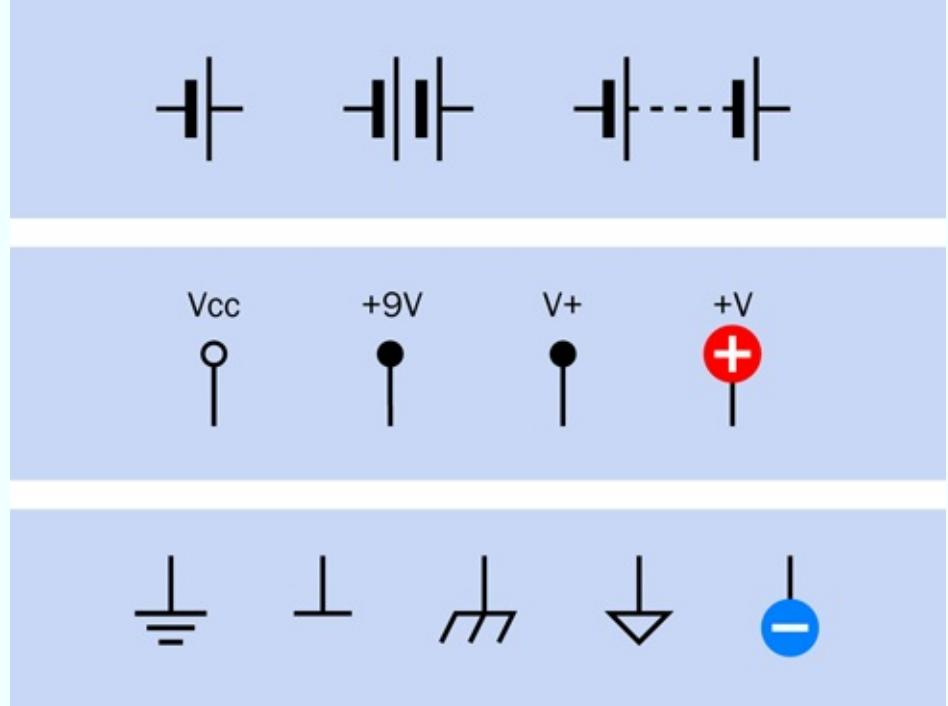

Figure 2-42. Various ways to show positive and negative DC power in a circuit.
2. Power Supply. The power supply for a DC (direct-current) circuit can be indicated in several ways. The top section of Figure 2-42 shows symbols for a battery. A short line indicates the negative end, while a longer line indicates the positive end. Traditionally, a single pair of lines represented a single 1.5-volt cell, two pairs indicated a 3-volt cell, and so on. But when circuits used high voltage with vacuum tubes, the person drawing the schematic would usually show a dashed line between cells instead of drawing dozens of them in a row.
A battery symbol may still be used in a simple schematic, but more often positive and negative DC power is indicated by separate symbols, shown in the center section and the bottom section of Figure 2-42. Positive is applied in one location of a circuit labelled V_{CC}, V_{CC}, or V+, or +V, or +V with a number added to indicate the voltage. Originally the term V_C referred to the voltage at the collector of a transistor. V_{CC} meant the supply voltage for the whole circuit, and is now used regardless of whether the circuit has any transistors in it. Many people say “vee cee cee” without knowing its derivation.
The negative side of the power supply can be shown with any of the symbols in the bottom section of Figure 2-42. It may be referred to as “negative ground” or simply “ground.” Because many parts of a circuit may share a negative potential, multiple ground symbols may be found scattered around a schematic. This is more convenient than drawing lines linking them all together.